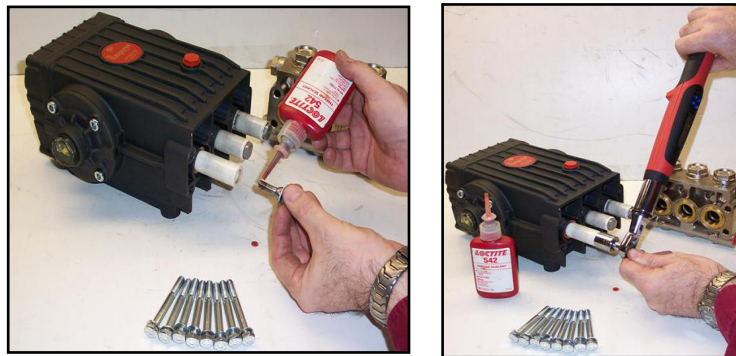

Figure 10. Install O-ring, Apply Sealant and Slide Plunger over Plunger Guide
18. Install new Teflon® back-up ring and O-ring on the plunger bolt. Apply a film of O-ring grease on the outside of the O-ring (see Figure 10).
19. Apply removable anaerobic thread sealant (Loctite® 542) to the threads of the plunger bolt, carefully pressing the plunger bolt into ceramic plunger (see Figure 10).
20. Slide new ceramic plunger over the plunger guide (see Figure 10).